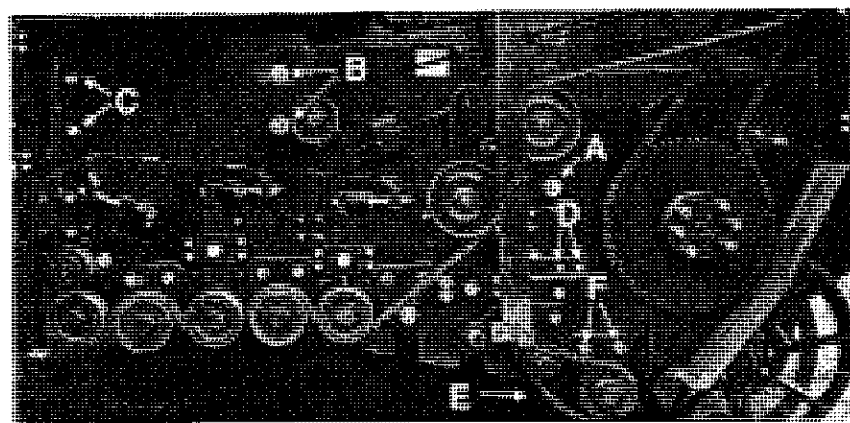
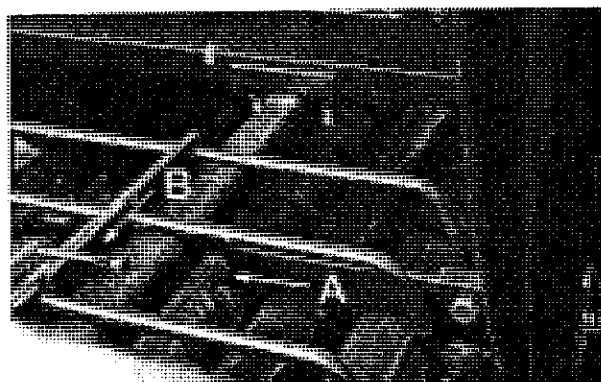

Figure 34. Fasteners That Must be Loosened to Adjust the Grabroll Bed
Figure 36. Diverter Roll Support
The conveyor and grabroll bed consists of 8 rolls plus 2 diverter rolls at the rear to direct beets to the wheel elevator. With this design, the slope of the grabroll bed can be changed to increase or decrease the beet cleaning or to improve the flow of the beets. When lowering or raising the grabroll bed, you must first loosen the drive belts on each side. Refer to Figure 34 and perform the following on each side of the machine: Loosen the front bolt (A), loosen the front U-bolt (B) and remove the rear U-bolt (C) that holds the grabroll panel on each side. Loosen the braces (refer to Figure 36) that hold the rear diverter roll supports on each side. Also loosen the center shield support (Figure 34-D) on the right hand side.
D-rings that secure it (Figure 36-B). Then loosen the diverter support bolt (A), and position the assembly as necessary. Tighten all loosened bolts and replace the grates.
To move the front smooth roll, remove the drive chain from the right hand side (Figure 34-E). Support the roll with a jack and remove the bearing plate mounting bolts (Figure 34-F). Raise or lower the roll to the desired position. Install and tighten all the bolts and the drive chain.